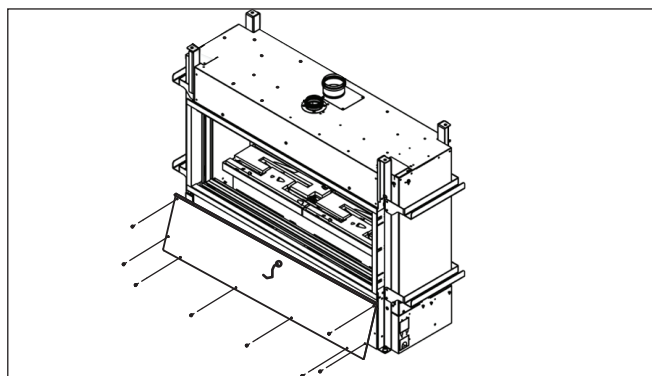

FIG 34 Remove front panel to access gas valve.
1. Remove the front cover plate off the front bottom of the heater (**FIG 34**). Note: the front cover plate cannot be removed after the wall finishing has been installed.